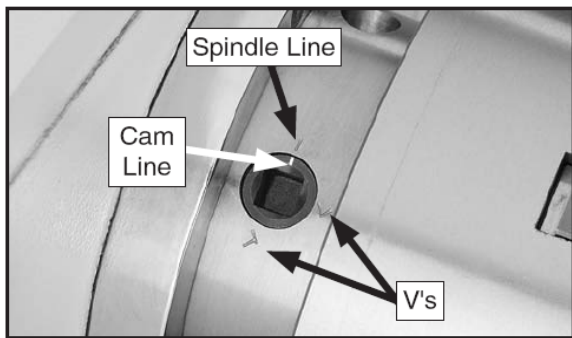

Figure 11
3. Loosen the cam-locks by turning the key counterclockwise approximately one-third of a turn until the mark on the cam-lock aligns with the single mark on the spindle nose in **Figure 11**. If the cam-lock stud does not freely release from the cam-lock, wiggle the cam-lock until the cam-lock stud releases. Note: These cam-locks may be very tight. A breaker bar may be used to add leverage.